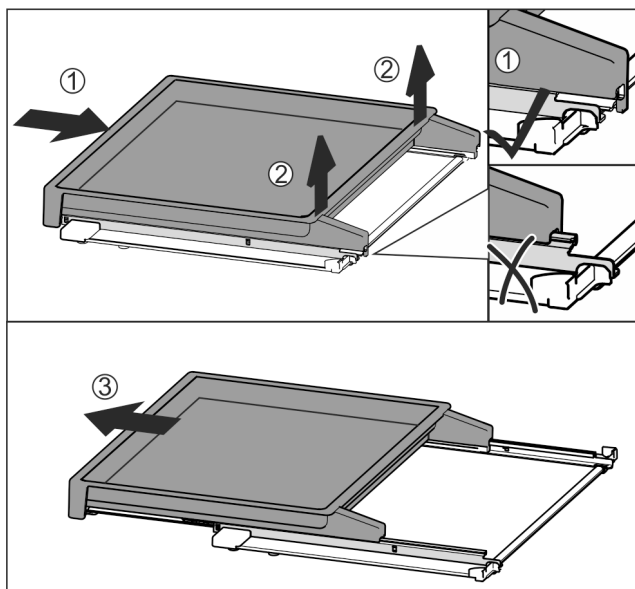

Fig. 32
- Slide the pull-out board all the way in Fig. 32 (1).
- Release the clips at the back Fig. 32 (2).
- Remove the pull-out board from the front Fig. 32 (3).